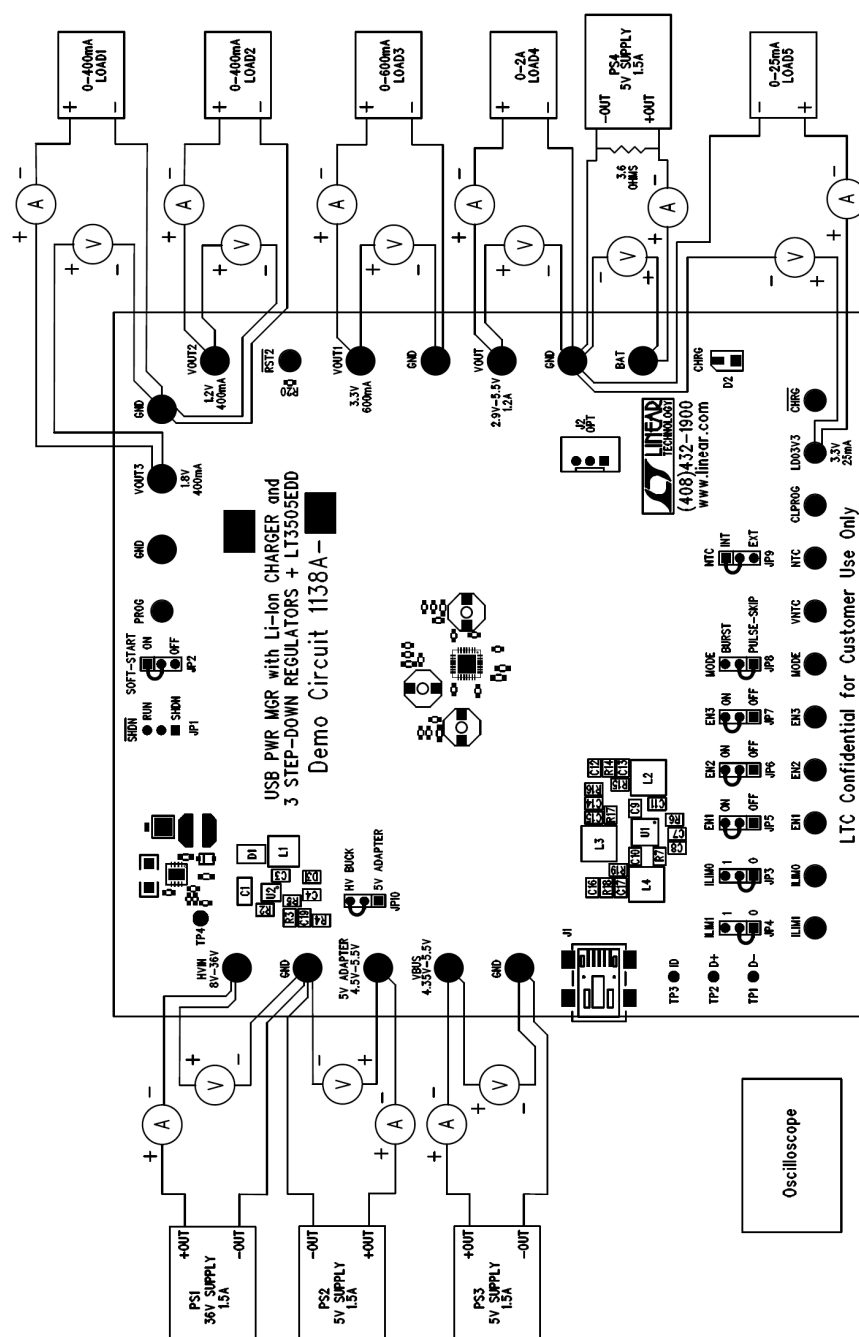

Figure 2. Proper Equipment Setup for DC1138A-A/B
Demo Circuit 1138 is best evaluated using a lithium ion battery. The test set-up in Figure 2 shows a battery simulator, consisting of PS4 and a 3.6 Ohm power resistor. Since the demo circuit is designed to possibly be used with a battery simulator, it includes a capacitor between the BAT and GND terminals with some series resistance. Please see the Applications Section below for a detailed discussion of selecting the proper bypass capacitor and series resistance for the BAT terminal.
Refer to Figure 2 for the proper measurement and equipment setup and follow the procedure below.
1. Set all Power Supplies to zero volts and all loads to zero amps and then connect the test equipment as shown in Figure 2. If using the USB input option, have cable ready to plug in for when all loads and jumpers are set. **Do not use the USB input and an external supply at the same time.**